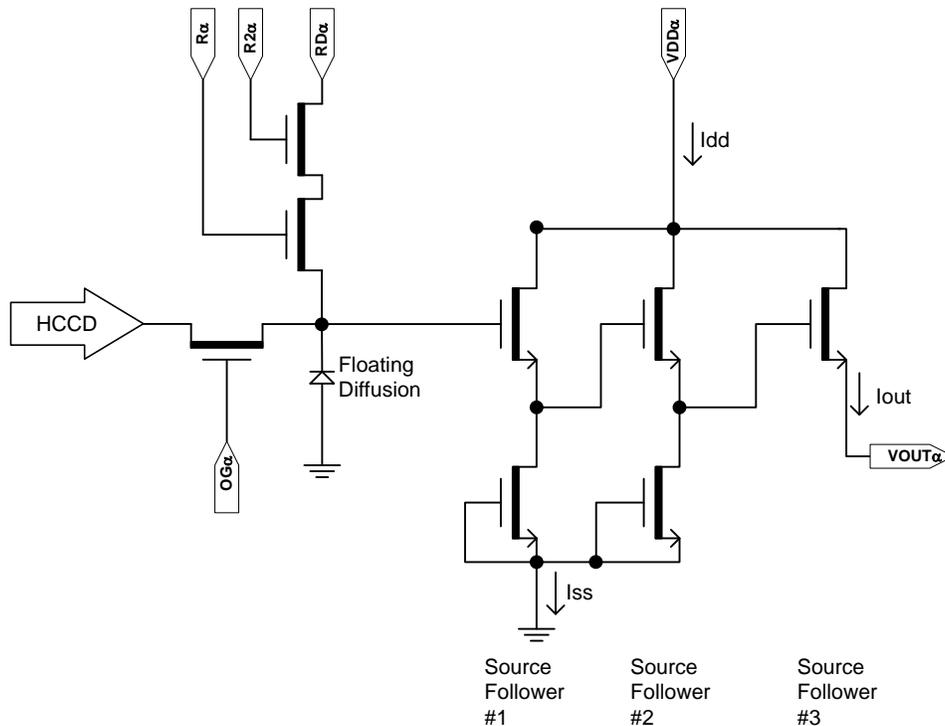

Figure 24: Output Amplifier
2. The maximum DC current is for one output. Idd = Iout + Iss. See Figure 24.